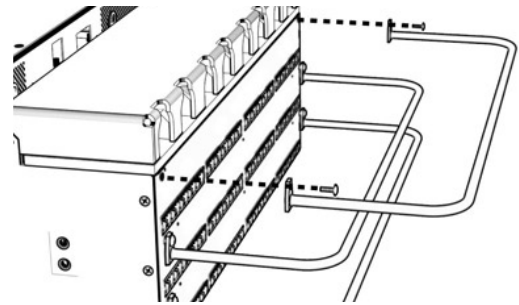

Figure 2. Cable Lacing Bars
- Step 1.** Attach the three cable lacing bars to the threaded inserts found on the rear of the chassis using the included 12-24 hardware (see Figure 2).